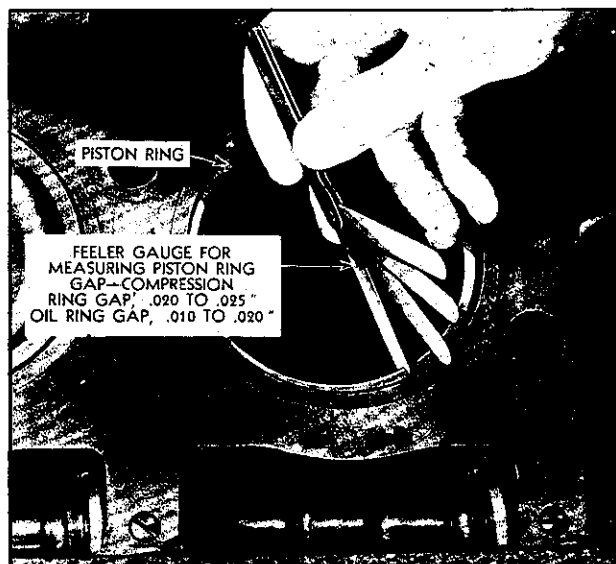

Fig. 4—Measuring Piston Ring Gap.
Cylinder bores should be measured with the gauge shown in Fig. 4, Sec. 3, both lengthwise and crosswise of the bore throughout the entire length of the cylinder liner.
**Fitting Piston Rings**—Replace rings at each overhaul period. When fitting piston rings, the gap between the ends of the ring should be measured with the ring inserted in the bore parallel with the top of the cylinder block as shown in Fig. 4. This may be done by starting the ring in the bore and then locating the ring by sliding piston into bore on top of ring.